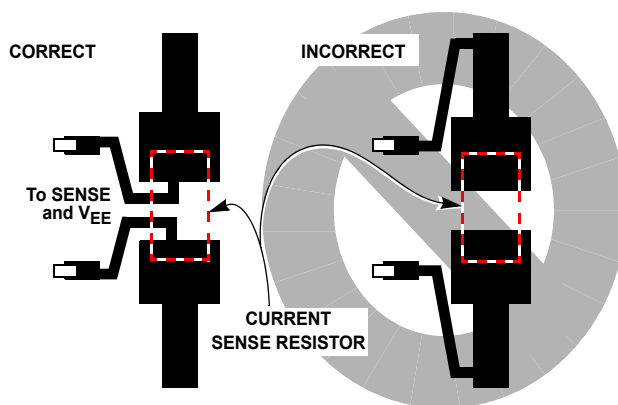

FIGURE 24. SENSE RESISTOR LAYOUT GUIDELINES
**Physical layout of R1 SENSE resistor** is critical to avoid the possibility of false over current events. Since it is in the main input-to-output path, the traces should be wide enough to support both the normal current, and up to the over-current trip point. Ideally trace routing between the R1 resistor and the ISL6141/51 (pin 4 (VEE) and pin 5 (SENSE)) is direct and as short as possible with zero current in the sense lines. (See Figure 24).